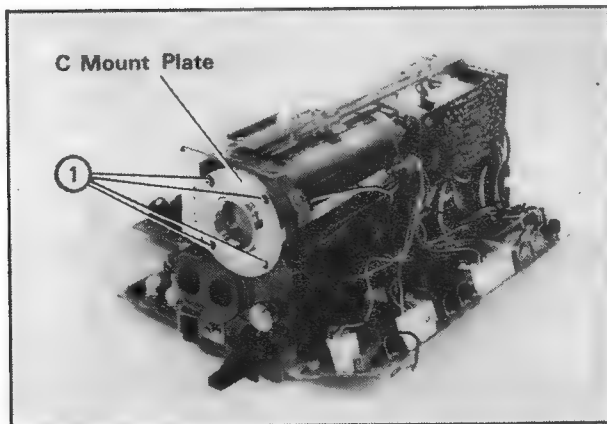

Fig. 3.13 Removal of C-mount Plate
- (2) Remove the four screws (1), shown in Figure 3.13, and remove the C-mount plate